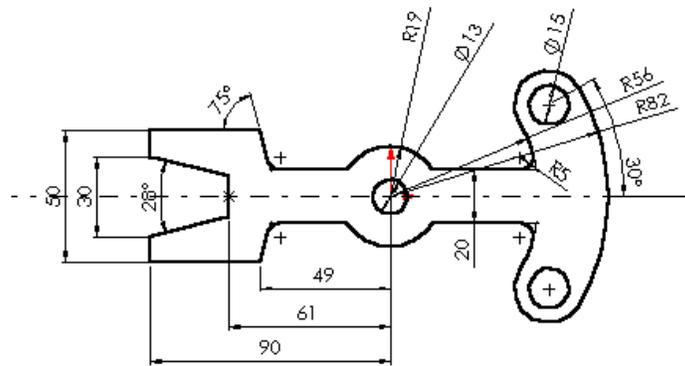

Figure 4-37 Sketch that will be opened on the screen
- a. Open the file of Tutorial 2 of Chapter- 3, refer to Figure 4-37.
The file will be saved with the new name and the new file will now be opened on the screen. The sketch that will be displayed on the screen is shown in Figure 4-37.